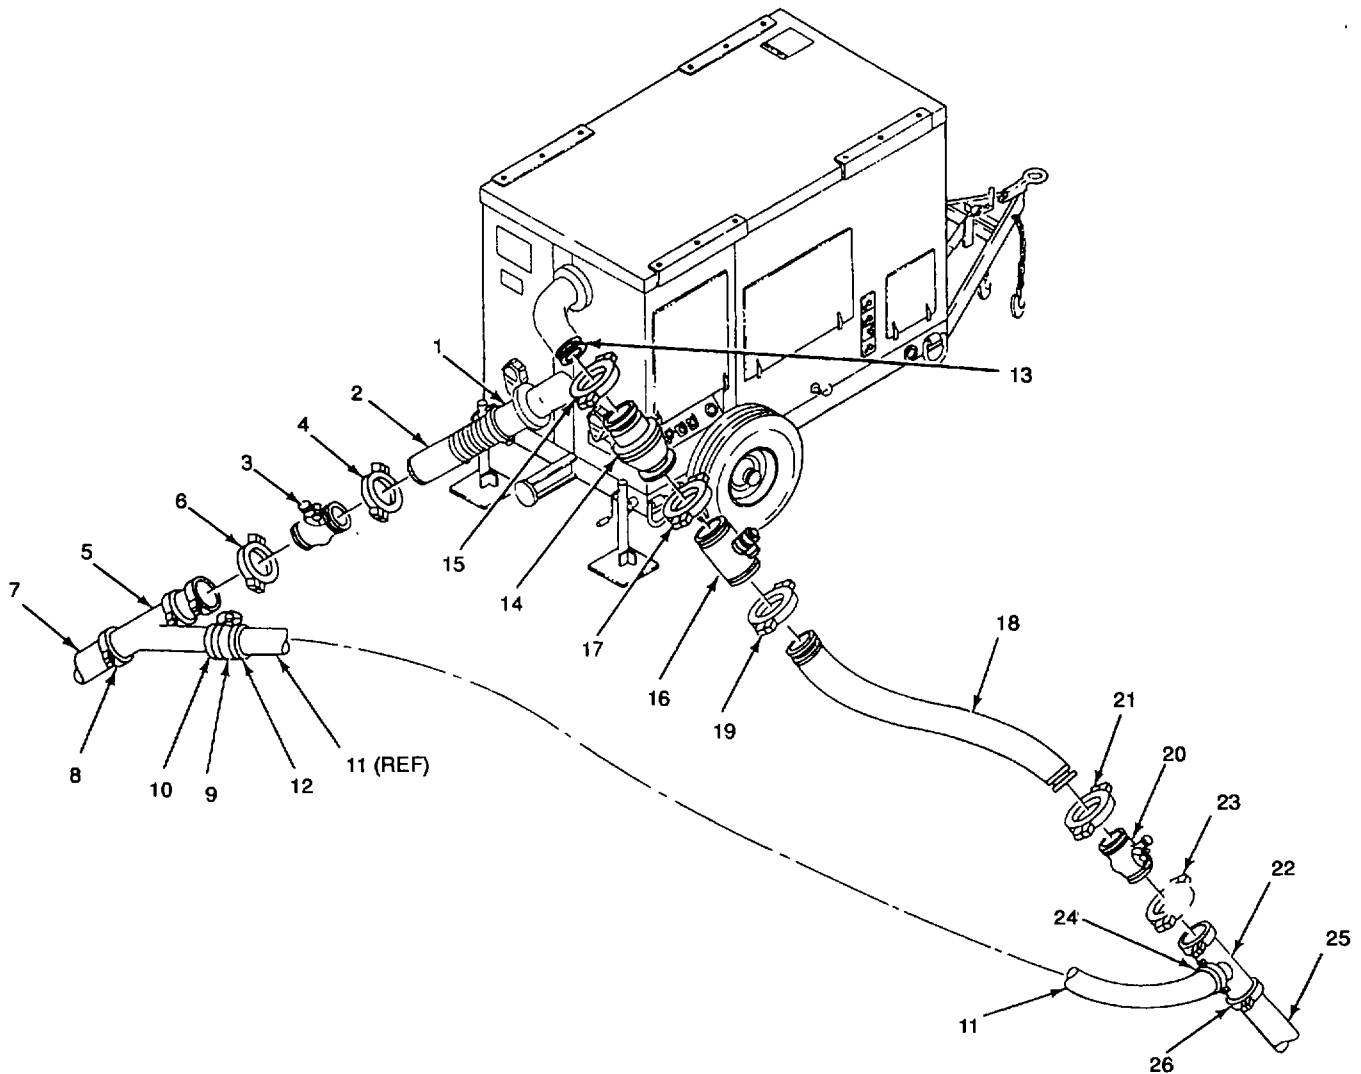

Figure 2-17. Boost Pumping Assembly
- (9) Install pressure-relief valve assembly (9) to 6-inch check valve (6) with 6-inch boltless coupling (10).
- (10) Connect end of 10-mile segment collapsible hose (11) to pressure-relief valve assembly (9) with 6-inch boltless coupling (12).
- (11) Restrain hose manually until first 50 ft (15 m) of hose is in position. After 50 ft (15 m) of hose is in position, the weight of the hose will hold line in place.
- i. Assemble Boost Pumping Stations. Perform the following (Figure 2-17):
- (1) Disconnect pumping assembly from tow vehicle. Refer to applicable pumping assembly technical manual.
- (2) Remove plastic cap from suction port (1) on pump. Retain cap for movement or storage.
- (3) Locate 6 in. X 10 ft lengths of rigid-walled, wire reinforced suction hose (2) with quick-disconnect fittings.
Personal injury may result from high pressure water if pressure-relief valve faces butterfly valve. Ensure pressure-relief valve is installed as shown in Figure 2-17 to avoid personal injury.